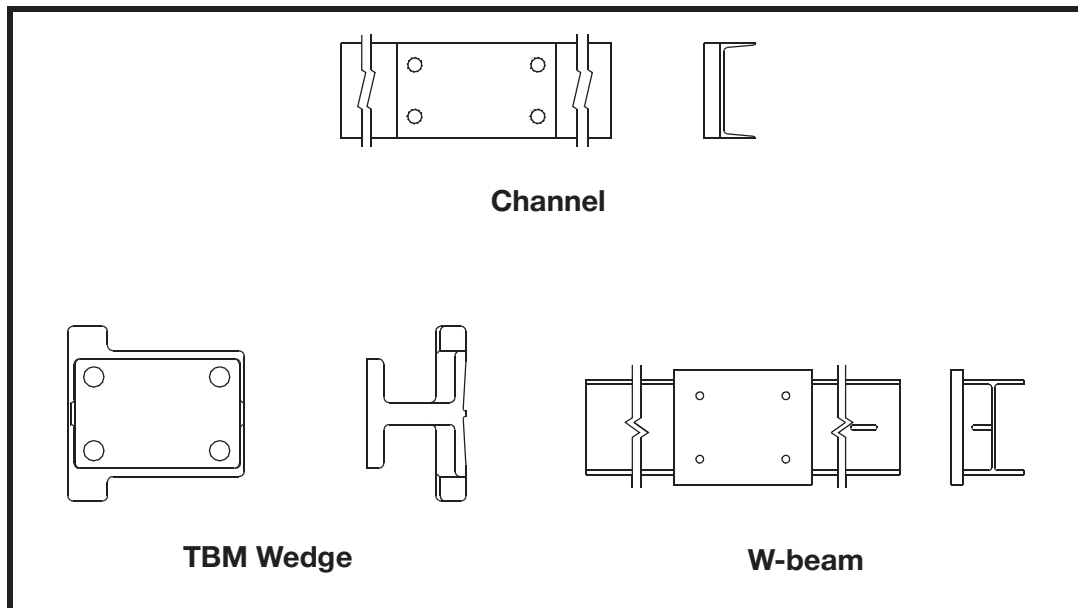

Figure 2. Channel, TBM Wedge, and W-beam Mounts (Top and Side Views)
2. See Figure 2. If using Martin® Channel Mount, W-beam Mount (or equivalent), or T-beam to mount vibrator/impactor onto structure, do the following:
- d. If installing vibrator/impactor on hopper with wedge mount already in place, use TBM Wedge (see Figure 2) or equivalent to mount vibrator/impactor. Mount female half of wedge rigidly to beam extending at least 3/4 the slope length.
4. Install vibrator/impactor onto Channel Mount, W-beam Mount, or TBM wedge (see Figure 2) as follows: